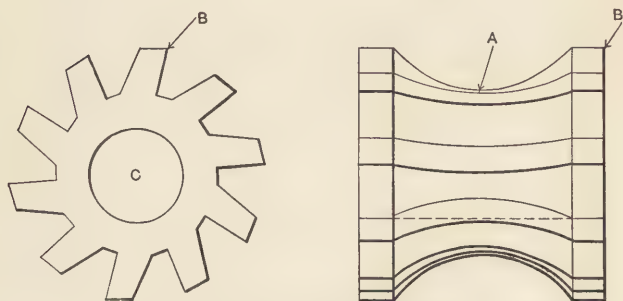

Fig. 11. Formed Milling Cutter.
**Hardening Formed Cutters.**—A formed milling cutter shaped something like the one illustrated in Fig. 11 is a difficult tool to temper if done in the old